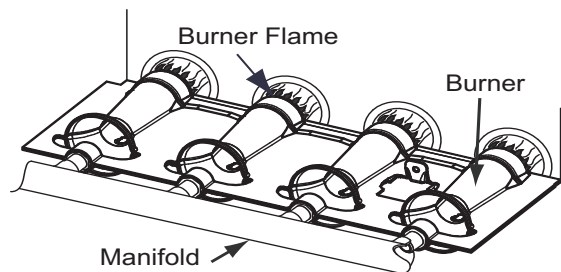

Fig. 24 – Burner Flame A11461
NOTE: Gas valve regulator seal cap **MUST** be in place when checking input rate. When correct input is obtained, main burner flame should be clear blue, almost transparent (see Fig. 24). Be sure regulator seal cap is in place when finished.
8. When correct input is obtained, main burner flame should be clear blue, almost transparent (see Fig. 24).
13. When correct input is obtained, main burner flame should be clear blue, almost transparent (see Fig. 24).
15. Turn setup switch SW1 (TT) on furnace control to OFF position.
NOTE: When correct input is obtained, main burner flame should be clear blue, almost transparent (see Fig. 24).